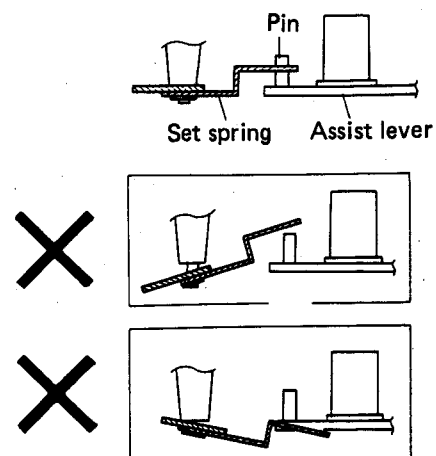

Fig. 1-30 Mounting the index cam 2
2. Insert the assist lever with the index cam into the tonearm base, and secure by screw. Check that the assist lever pin properly meets the set spring during this operation. The set spring must not fail to meet the pin, and must not strike against the base of the pin (see Fig. 1-30).